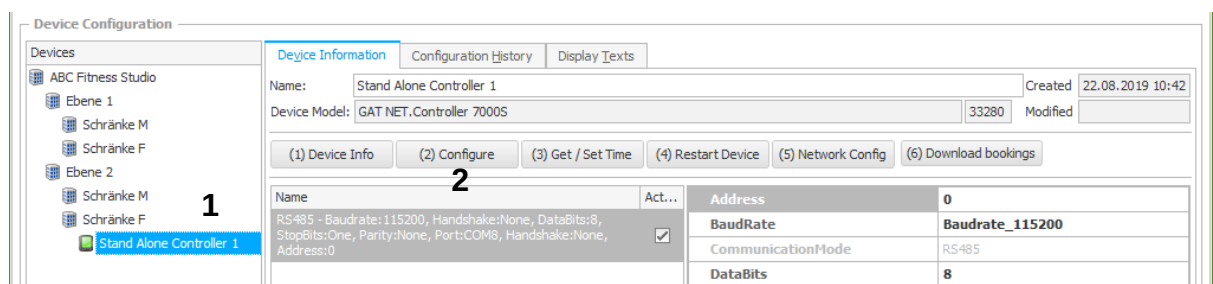

Figure 3.9 – Displaying the configuration settings
- Select the GAT NET.Controller S from the “Devices” list (1 in Figure 3.9).
- Click on “(2) Configure” (2 in Figure 3.9).